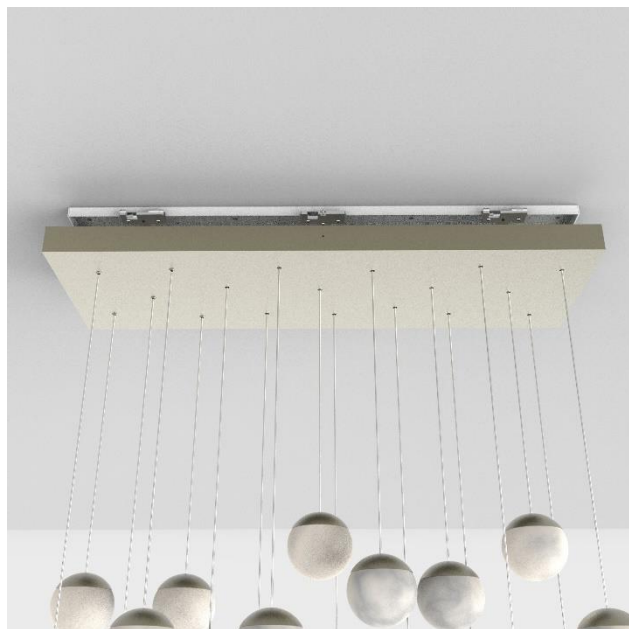

Figure 3
- Lift canopy up and slide to the left or right, depending on which side installer is on. (Figure 3)